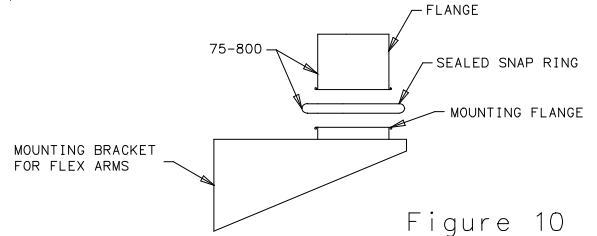

Figure 10
- In order to use a 6" connecting duct to the main duct from the arm, **MODEL 75-800** connection flange and snap ring are required. The connection flange and the snap ring mount directly to the mounting bracket (See Figure 10).